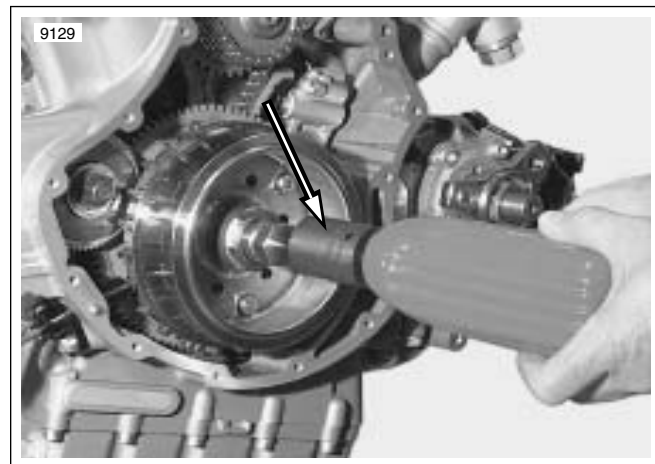

Figure 8-13. Alternator Rotor Remover (HD-45315)
15. See Figure 8-13. Use an impact socket and wrench to tighten the tool removing the rotor from the crankshaft taper.